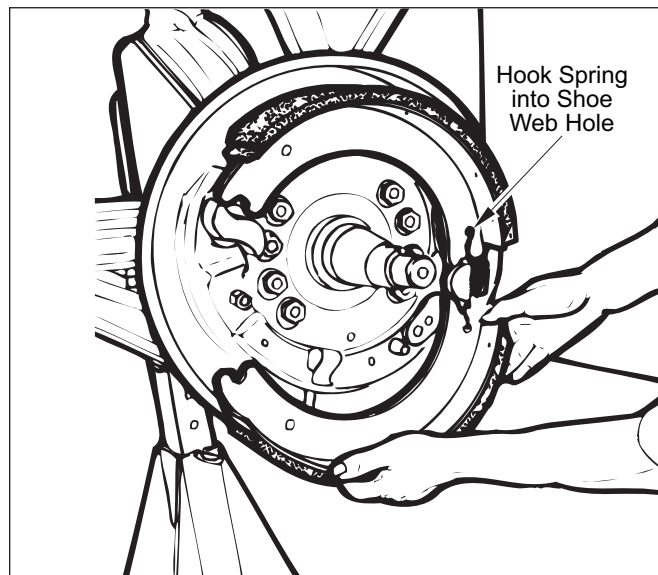

Figure 58. Shoe Retaining Spring Installation
4. Hook one end of a new shoe retaining spring into hole in upper shoe web so coil lays across anchor pin. Refer to Figure 58.